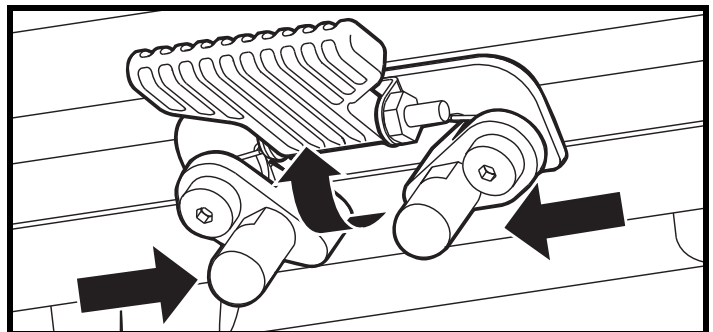

Figure 13. Seat Latch Safety (Disengaged)
4. Flip up the seat latch safety. See figure 13.